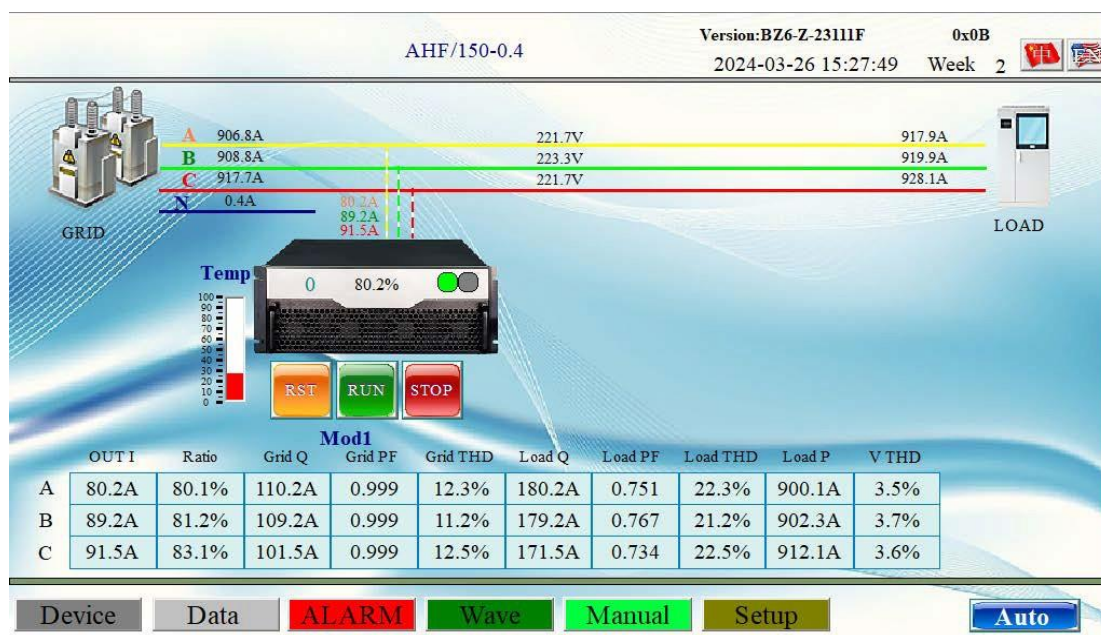

Figure 2 - Touch screen interface
On the screen in Figure 2 you can see important information, such as Temperature, Current (A), Voltage (V), Output compensation current, PF, THDI, Active power, Reactive power, etc., there are also RUN and STOP buttons, which are used respectively for switching on and off the filter.